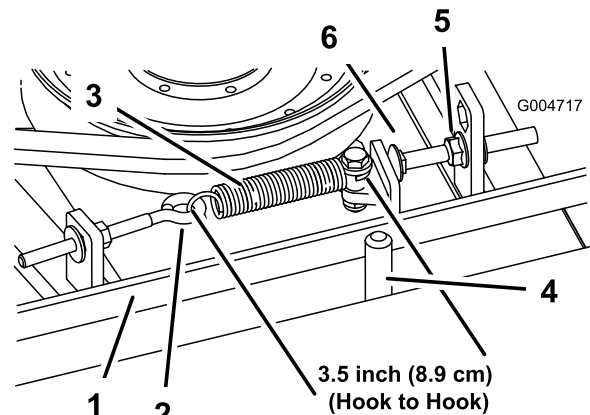

Figure 70
When properly tensioned, the extension spring (hook to hook) measurement should be approximately 3.50 ±.25 inch (inside). Once the correct spring tension is attained, adjust the stop bolt (carriage bolt) until there is approximately .125 +.060/-.000 inch clearance between the head of the bolt and the idler arm (Figure 70).
Note: Make sure the belt is positioned on the spring side of the belt guide (Figure 70).
2. Loosen the eye bolt allowing the removal of the extension spring (Figure 70).
idler arm to pass by the stop bolt (Figure 70). Move the idler pulley away from the belt to release belt tension.
8. Reconnect the extension spring (Figure 70) to the eye bolt and tension the belt as follows: